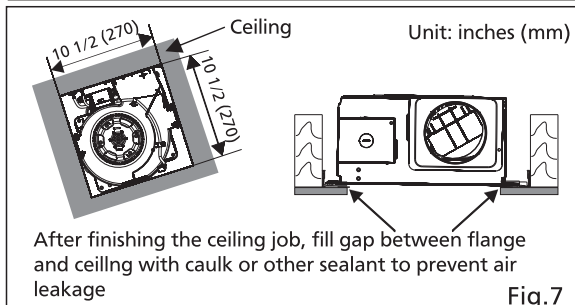

Fig.7
9. Finish ceiling work. Ceiling hole should be aligned with the inside edge of the flange. (Fig.7)